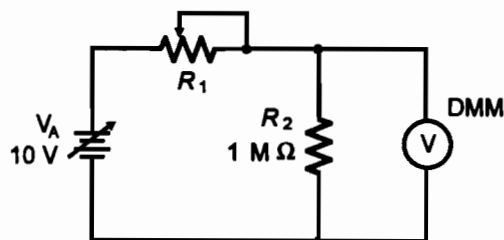

Figure 4.2
In this part of the experiment, you will observe the effect of meter loading. It will be necessary to measure the resistance of  $R_2$  in Figure 4.2.
2. Construct the circuit in Figure 4.2. Adjust the DC supply to provide 10 V, and record the supply value. Measure and record the voltage across  $R_2$  using your DMM.